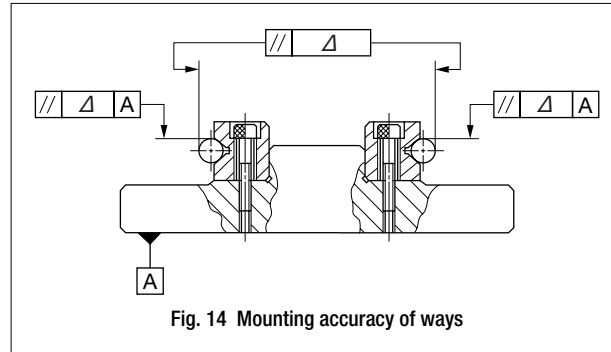

Fig. 14 Mounting accuracy of ways
**3 Mounting of ways at bed side (Fig. 14)**